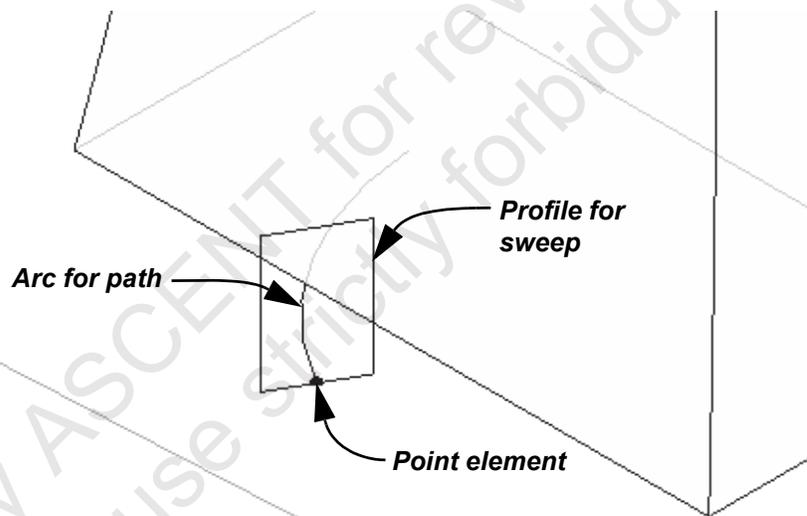

Figure 1–58
3. Draw an arc, as shown in Figure 1–58. This is the path for a sweep. It needs to start outside the existing mass to create the expected void form.